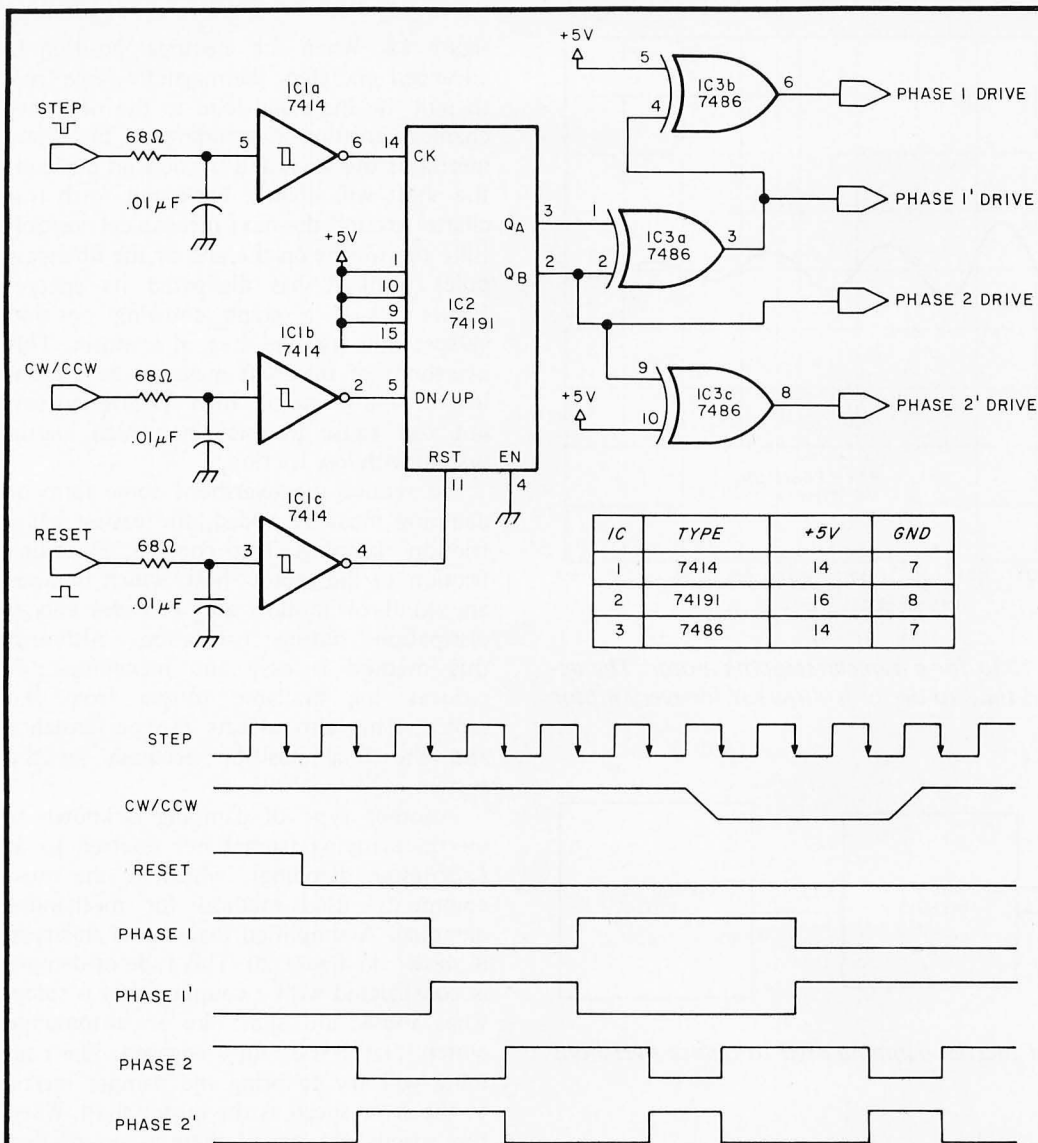

Figure 17: Hardware version of step sequence generation for a 4 phase full stepping motor.
Let us assume that two control lines from an input/output (IO) port are used to control the stepper. One line is for direction and the other is for a step command. The program can then control the speed of the motor by controlling the frequency of pulses on the control line. Figure 17 shows a simple interface circuit. The control lines coming from an output port are buffered and sent over a cable to this circuit, which is in close proximity to the motor. (Avoid high voltage and current spikes near the processor.) The first thing to be done is to clean up the signals and then feed them into an up-down counter. The counter determines in which of the four excitation stages the motor is to be. The outputs of the counter are fed into a decoder section that activates the driver transistors at the correct time.